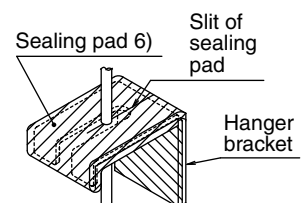

Fig. 6
- 5. Insulate the four hanger brackets with the sealing pad. (accessory 6)) Insulate the hanger brackets so that the surface and edges of the hanger brackets cannot be seen. (Refer to Fig. 6)